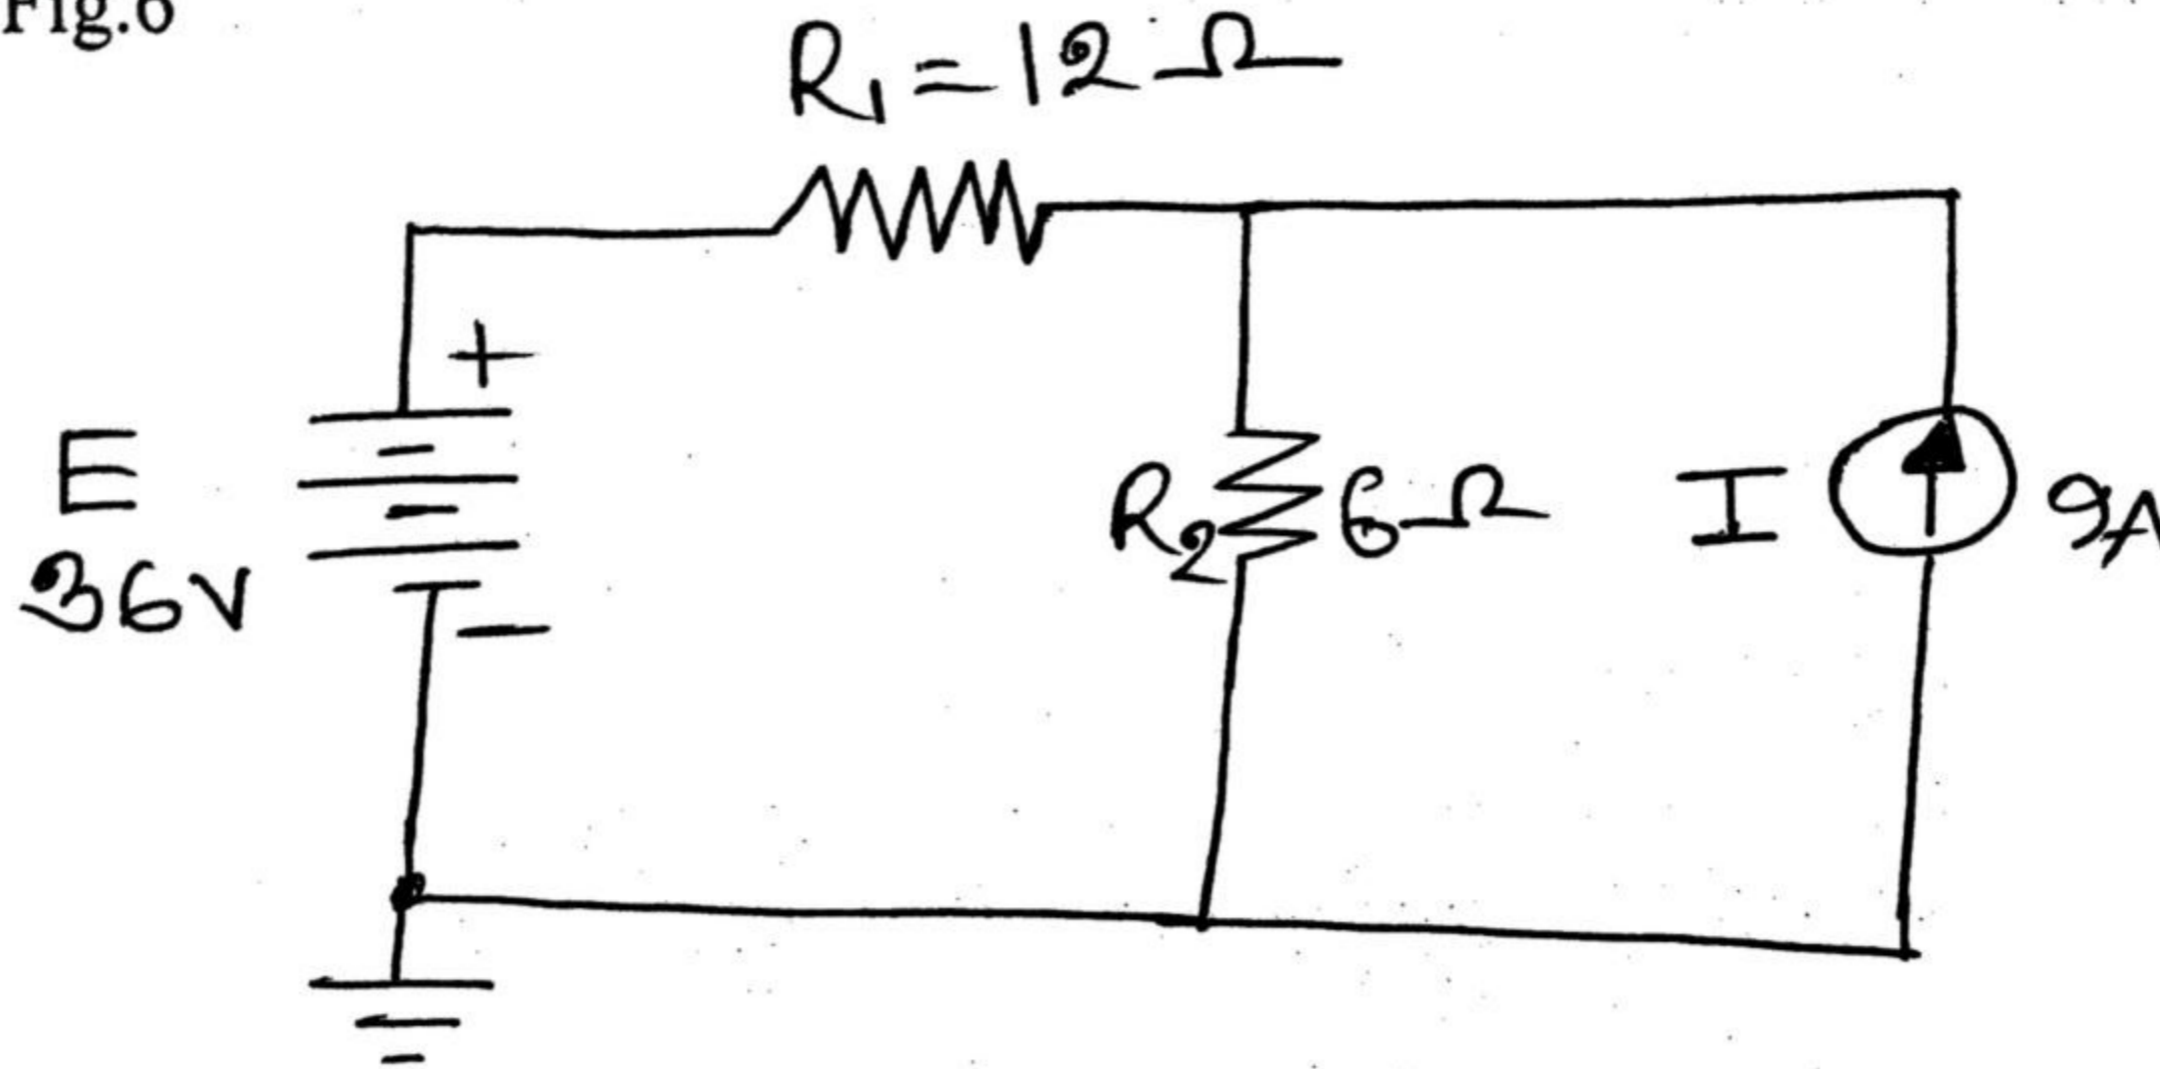

Figure: 6
11. a) Using the Superposition theorem, determine the current through resistor R_2 in the Fig.6 3